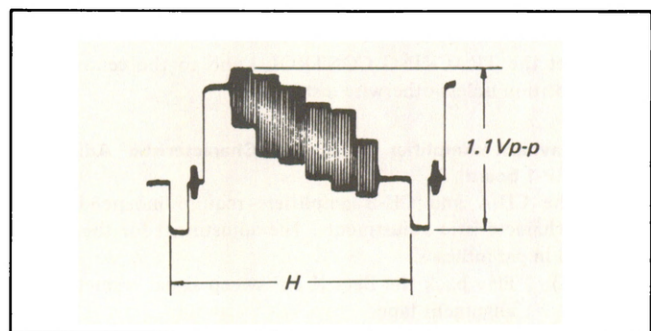

Fig. 4-29. E-E video output level (peak AGC) adjustment
- (1) Supply the color bar signal and set up the RECORD mode.
- (2) Connect the oscilloscope to pin 24 of IC1.
- (3) Adjust RV18 for maximum level.
- (4) Adjust RV16 for 1.1 Vp-p. (See Fig. 4-29.)